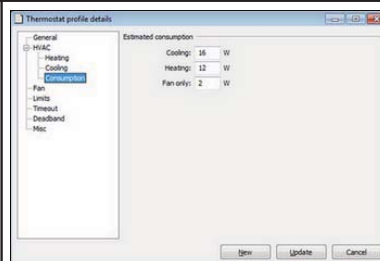

Figure 46
8. The **Consumption** alternative is only applicable if the *Integrated Room Control dashboard* is used. If this is the case, enter applicable values for the three cases 'Cooling', 'Heating' and 'Fan only'; see examples in Figure 46.